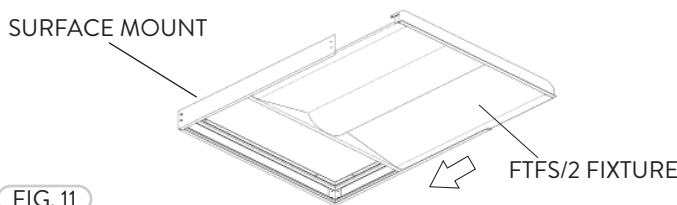

FIG. 11
- 3 Slide in the FTFS/2 fixture through the open side of the Surface Mount. This is when all the wiring installations should be made as well. Refer to the wiring diagram (Fig. 11).